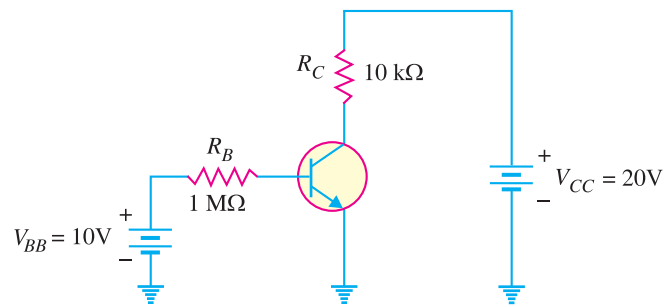

Fig. 8.72
12. Determine the intercept points of the d.c. load line on the vertical and horizontal axes of the collector curves in Fig. 8.72. [2 mA ; 20 V]